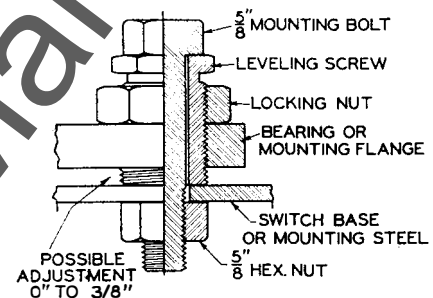

Fig. 4. Detail of leveling screw.
7. Leveling adjustment screw. (Fig. 4)
An important feature, and until recently not found on any other switch, is the LEVELING SCREW (Fig. 4). It is used to provide a high degree of accuracy, without the use of shims, to align the insulator stacks of the complete switch. The fine thread, individual screw adjustment regulates this accuracy to a fraction of a degree. When adjustment is completed, a locking nut is tightened against bearing or mounting flange for permanent setting.